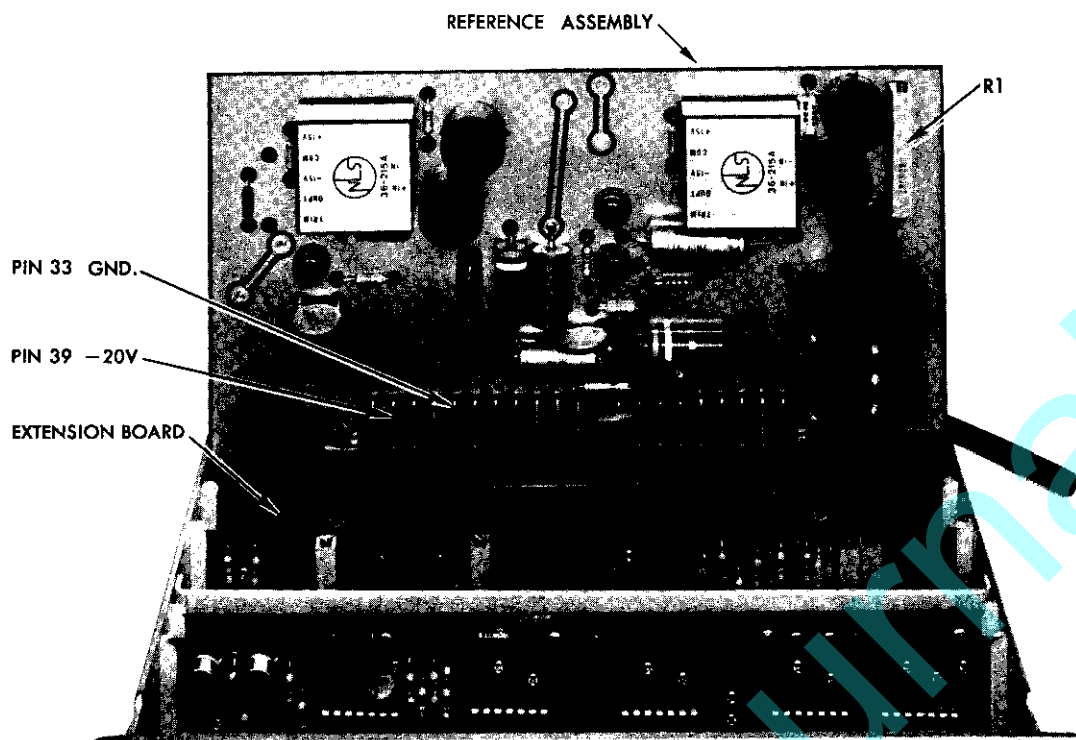

Figure 3-3. Reference Adjustment
4. Connect a voltmeter capable of measuring -20 VDC (± 1 MVDC) between ground and -20V output, pin 33 and pin 39 (Figure 3-3).
5. Adjust R1 (Figure 3-3) on reference assembly until test meter reads -20V (± 1 MVDC).